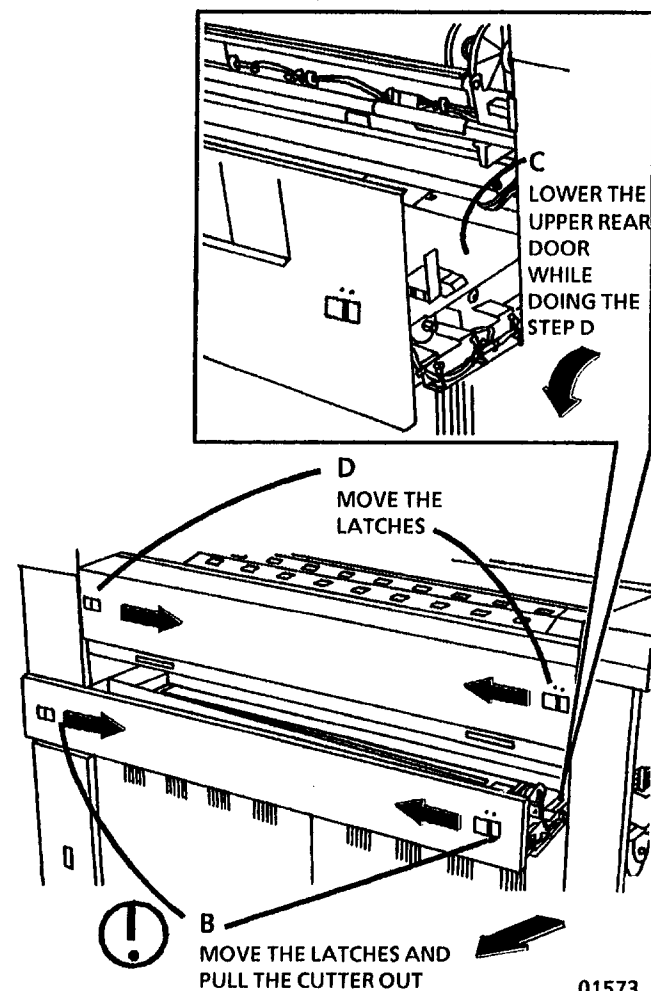

Figure 5. Prepare to remove the Developer Module
11. (Figure 5): Prepare to remove the Developer Module.